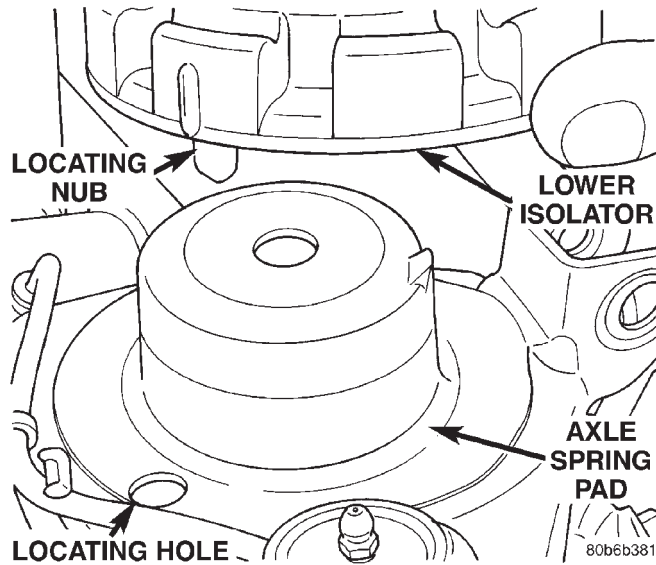

Fig. 5 Lower Isolator
- (1) Install the upper isolator.
- (2) Install the lower isolator with the isolator locator nub in the axle pad hole (Fig. 5).